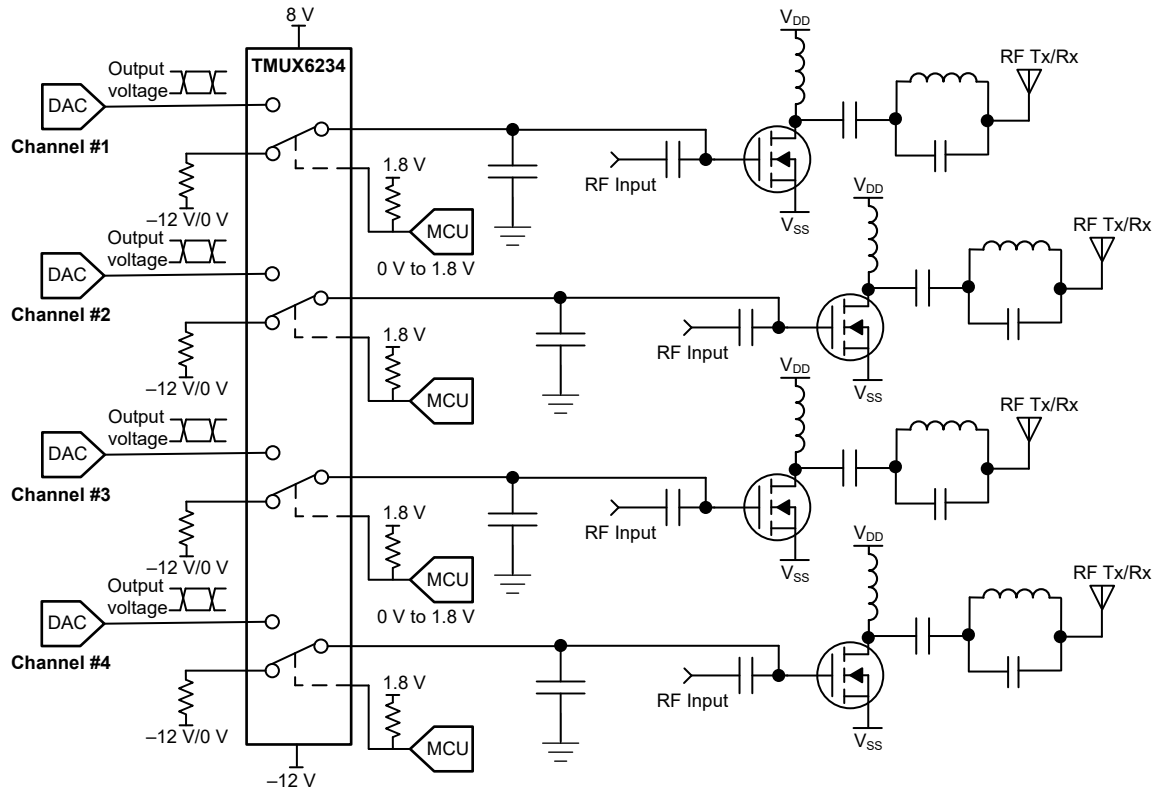

图 8-1. Power Amplifier Gate Driver
图 8-1 shows the TMUX6234 configured for control of a multi-channel power amplifier application.
The application shown in 图 8-1 demonstrates how to toggle between the DAC output and a low signal voltage for control of a power amplifier. A device such as the TMUX6234 that supports multiple supply voltage combinations allows the system designer to use a single switch across platforms with different power amplifier topologies such as GaN or LDMOS implementations. Using a multi-channel switch like the TMUX6234 allows the system to improve density by implementing a smaller solution size. Multiple channels of the TMUX6234 can be utilized to switch additional stages of a single power amplifier channel. Or multiple channel switches can be used on different power amplifier stages in high channel count communications equipment such as a 32 transmit (TX), 32 receive (RX) active antenna system mMIMO (AAS). Each channel of the TMUX6234 has independent control signals allowing for overall system flexibility. The DAC output is utilized to bias the gate of the power amplifier and can be disconnected from the circuit using the select pins of the switch or the global enable pin. The TMUX6234 can support 1.8 V logic signals on the control input, allowing the device to interface with low logic controls of an FPGA or MCU. All inputs to the switch must fall within the recommended operating conditions of the TMUX6234 including signal range and continuous current. For this design with a positive supply of 8 V on  $V_{DD}$ , and negative supply of -12 V on  $V_{SS}$ , the signal range can be 8 V to -12 V. The maximum continuous current ( $I_{DC}$ ) is captured in the *Recommended Operating Conditions* table for a range of supply voltage cases.